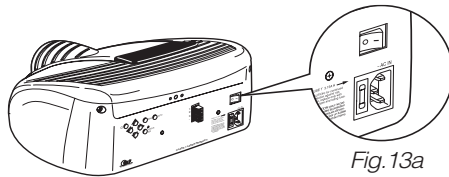
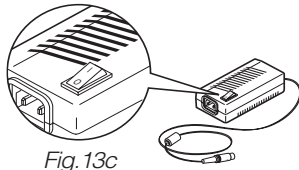

Fig. 13a
Fig. 13c
1) Set the two power switches to "I"; the DigiOptic™ Image Processor power switch is located on the external power supply unit (Fig. 13c), while the Projector switch is on the rear panel (Fig. 13a).